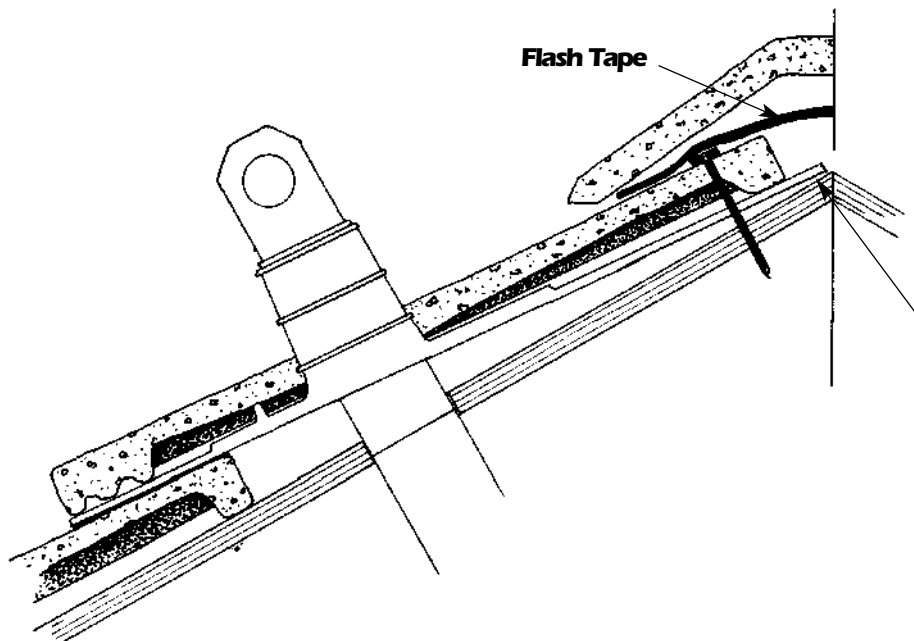

Fig. 25
NOTE: When installing without battens, the top edge may be bent upward or trimmed at the ridge and overlapping tiles nailed through. See **Fig. 25** on page 8.
8) When tiles are direct nailed without battens or if ridge boards are not used, the top overlapping course of the flashing will need to be nailed through the flashing base as shown in **Fig. 25**.